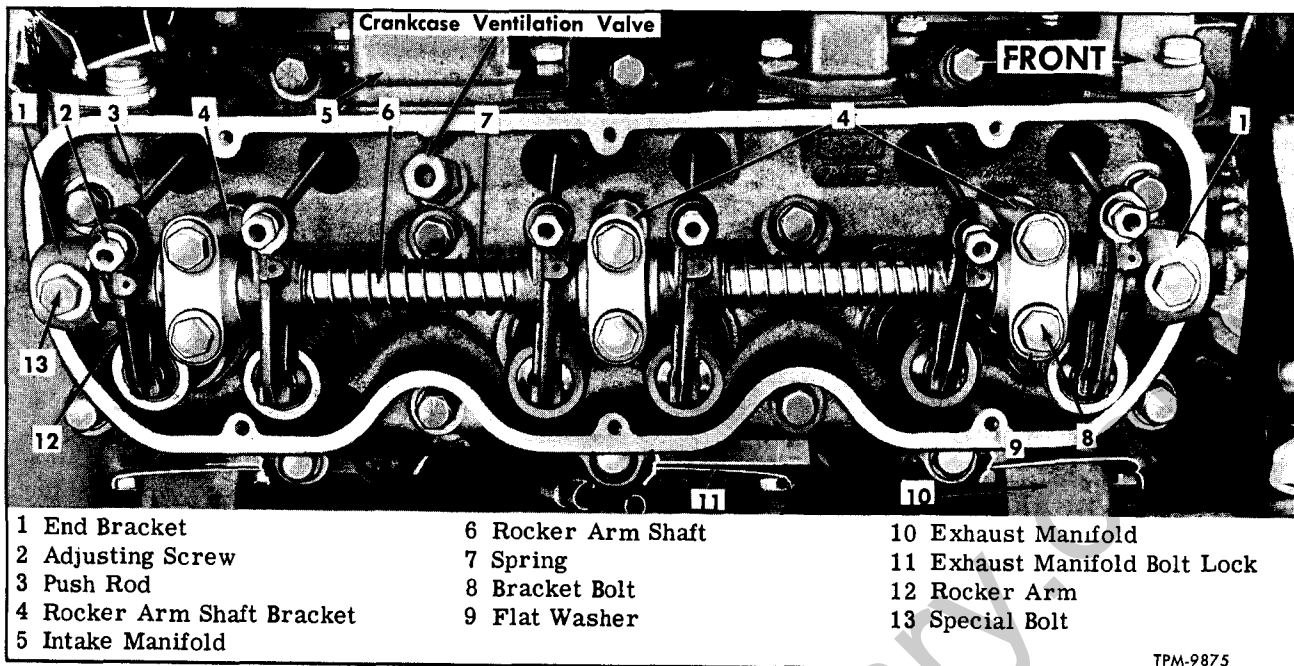

Figure 7 — Valve Rocker Arms and Shaft Assembly Installed on V6 Engine
1. Place push rods in original positions, then place rocker arm shaft and bracket assembly (fig. 7) on cylinder head, being careful to engage rocker arm screws with sockets in push rods. Tighten bracket bolts to 25 foot-pounds torque.
2. Bend locks away from manifold attaching bolts, then remove bolts. Figure 7 shows exhaust manifolds and attaching parts.